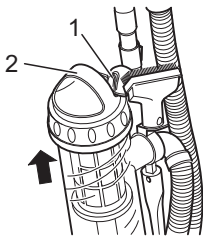

Fig.17
1. Press the release button (Fig. 17/1) for the dust container and lift the dust container up and out of the appliance using the handle (Fig. 17/2).